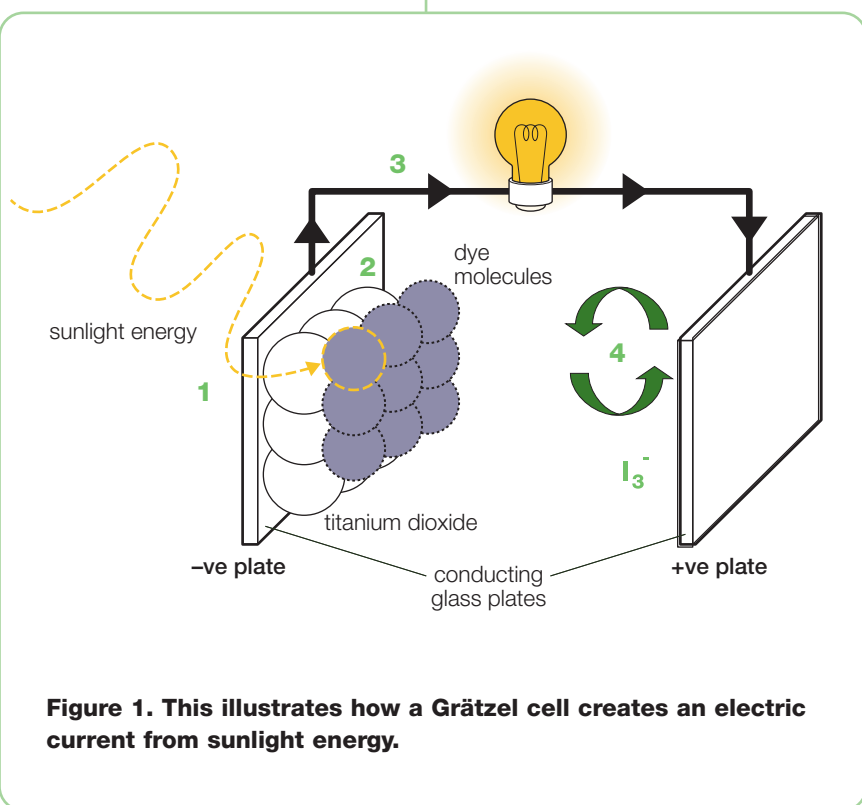

Figure 1. This illustrates how a Grätzel cell creates an electric current from sunlight energy.
An electric current is initiated when electrons within the dye molecules are excited by sunlight energy (1), fig 1. These excited electrons have enough energy to leave the dye molecules and accumulate at the TiO_2 plate (2). They then move along a wire between the two plates, creating an electric current (3). The dye molecules are then regenerated by the iodide ions through oxidation. The oxidised tri-iodide ions are then reduced back at the graphite plate (4).